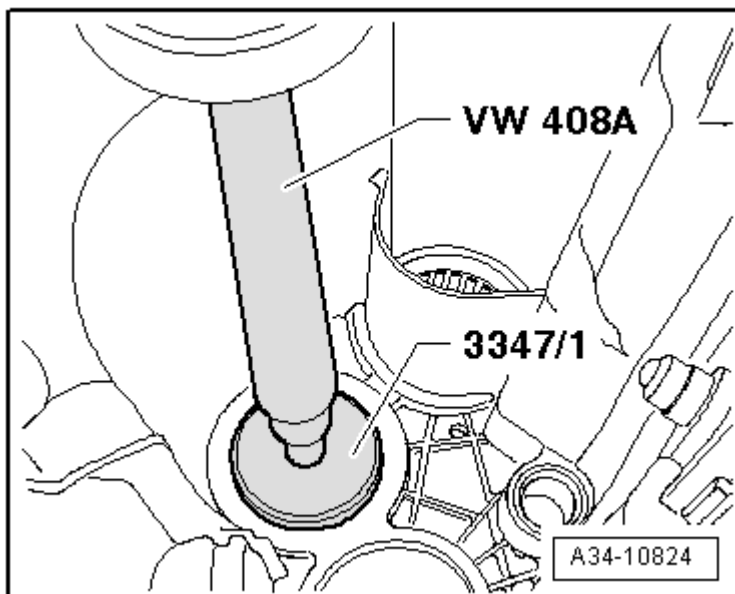

Fig. 60: Pressing Tapered Roller Bearing Outer Race Out From Transmission Cover
- Removing, refer to **Fig. 60**